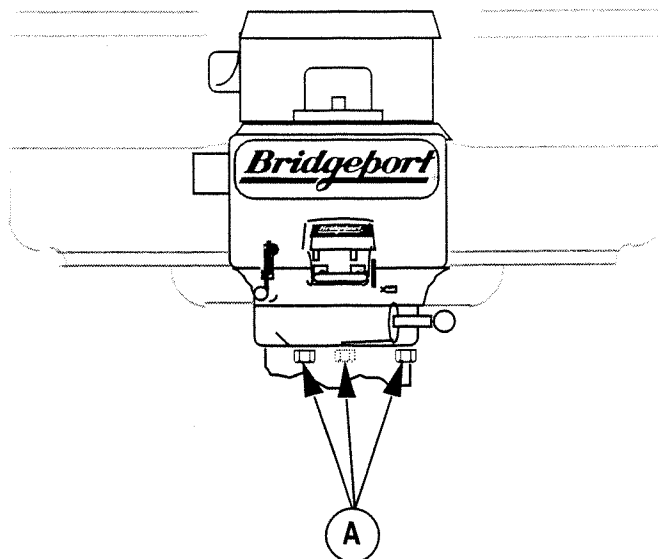

Figure 8-16. Swivel Belt Housing
8.21 SWIVEL BELT HOUSING (Figure 8-16)**WARNING**